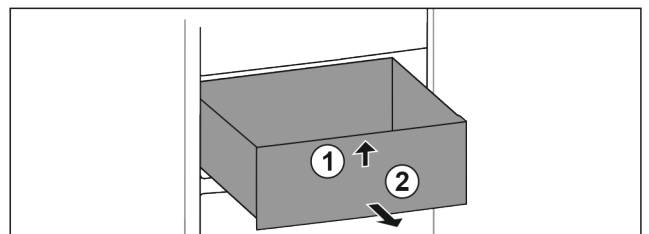

Fig. 17
- ▶ Lift up drawer at the front. Fig. 17 (1)
- ▶ Remove drawer to the front. Fig. 17 (2)